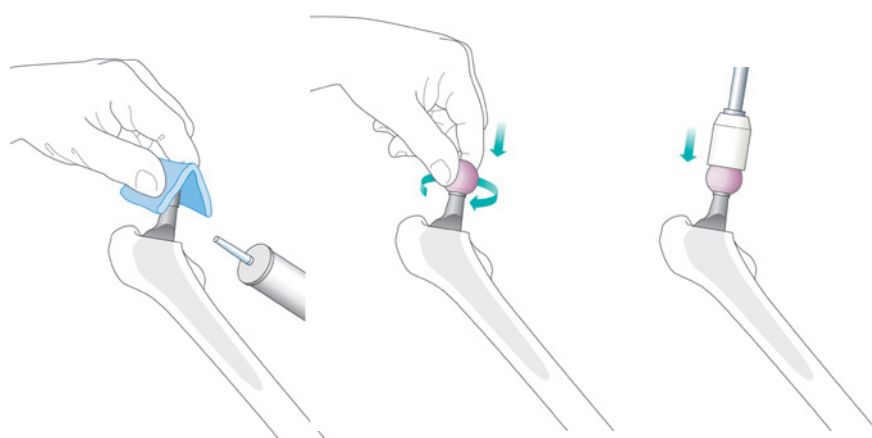

Fig. 4a
- For heads with diameter 36mm and beyond: With the plastic impactor attachment and a mallet, strike the *BIOLOX OPTION* head assembly firmly/moderately a minimum of three times to ensure full seating on the stem taper (Fig. 4a).